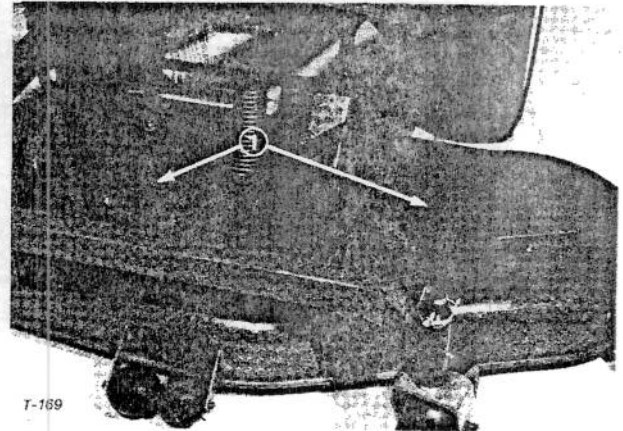

Figure 104
2. Remove capscrews and lockwashers securing left and right covers to top of cutting unit (Fig. 104).
8. Reinstall covers with capscrews and lockwashers (Fig. 104).
2. Remove capscrews and lockwashers securing right hand cover to top of cutting unit (Fig. 104).